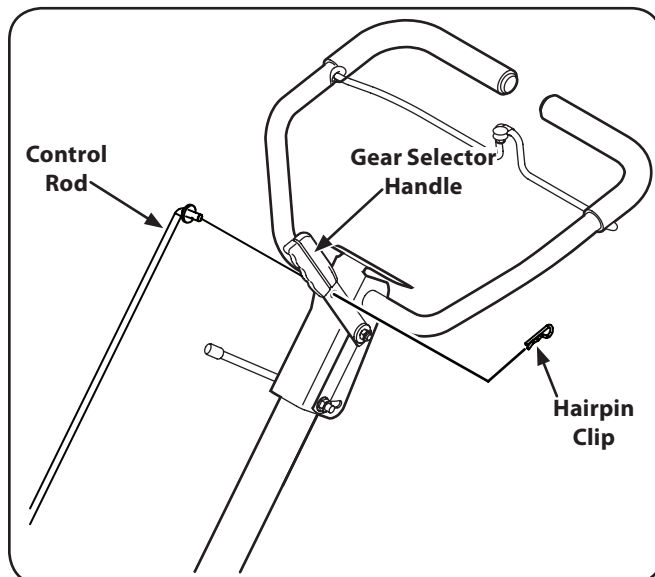

Figure 3-6
4. Insert the longer end of the control rod through the hole in the gear selector handle and secure with the hairpin clip. See Fig. 3-6.